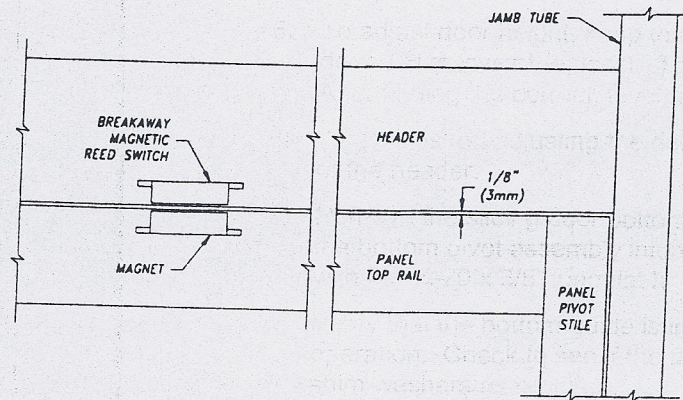

FIGURE 13: Panel (SO) Clearance for Reed Switch and Magnet
- Slowly close the panel after securing the pivots into position. The clearance between the top of the panel and the bottom of the header should be $1/8"$ (3mm) (Figure 13). If the clearance is greater than $1/8"$ (3mm), the magnet in the top rail of the panel may not be close enough to the reed switch in the header to complete the circuit for door activation. To correct the clearance, refer to the previous illustrations to remove the panel and adjust the height.